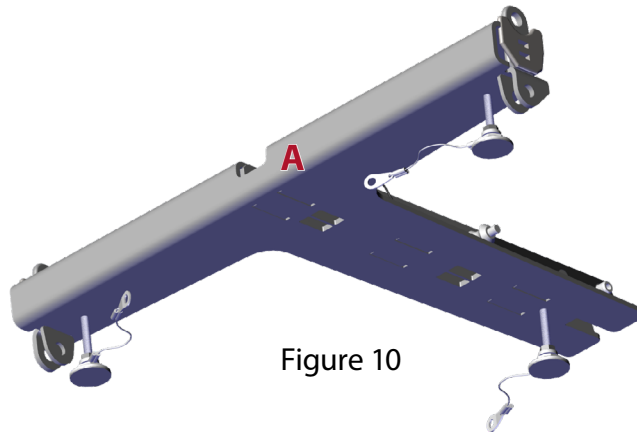

Figure 10
1. Invert Flybar frame (A) and locate feet positions (Figure 10). Turn either clockwise or counterclockwise to adjust height.